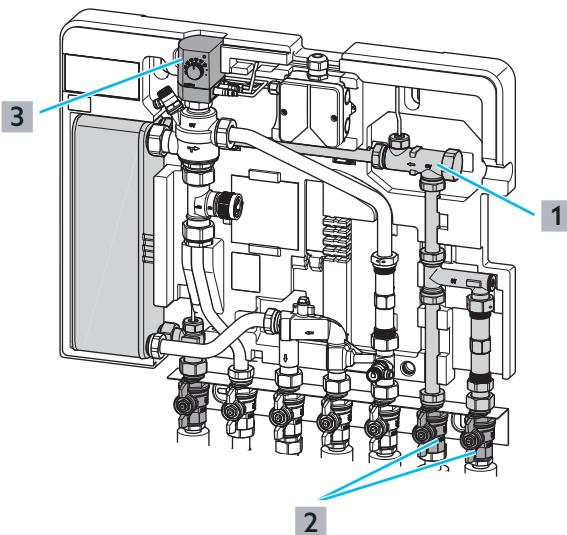

Fig. 37: Inspection and cleaning of the volume flow sensor
- 1** Close the ball valves in the cold water inlet and cold water outlet ((2) in Fig. 37 on page 39) in the potable water circuit.